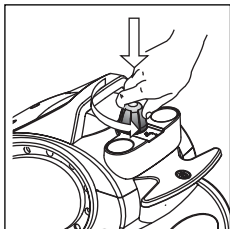

fig. 1
- Open the steam generator by pressing down on the safety cap and turning (fig. 1).